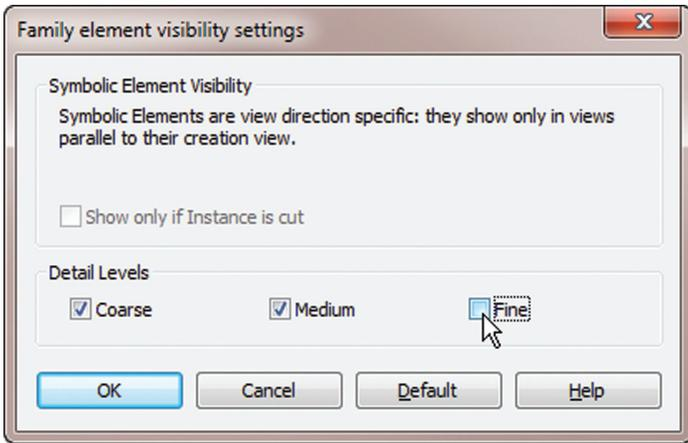

Figure 4: Turn off “Coarse” and “Medium”
20. Clear the Coarse and Medium options for Detail Levels (see Figure 4).